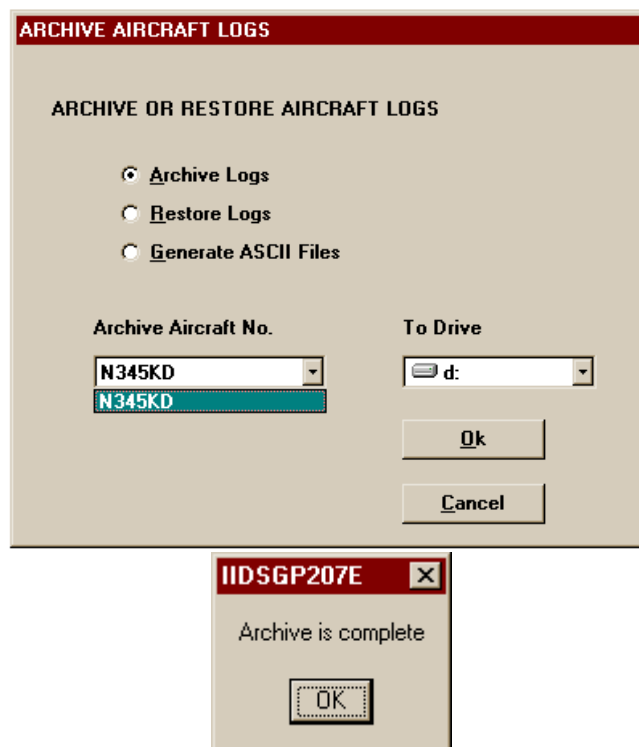

Figure 50. Archive /Restore Aircraft Logs Screen
3. In the Archive Or Restore Aircraft Logs Screen (refer to Figure 50) select to "Archive".
3. In the Archive Or Restore Aircraft Logs Screen select "Restore" (refer to Figure 50).